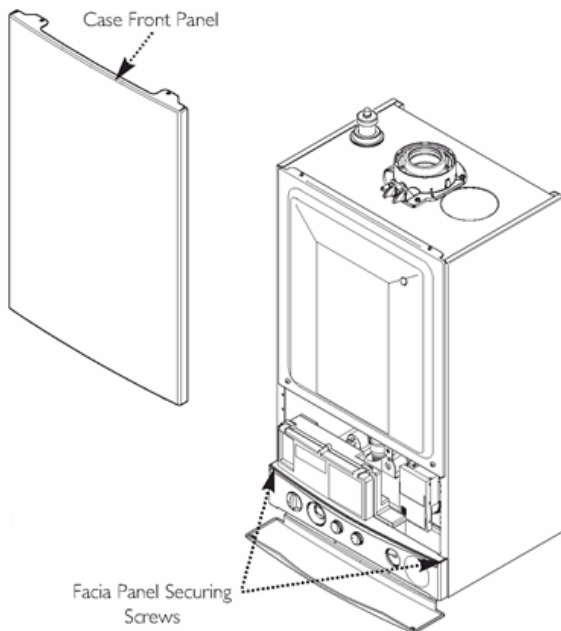

Fig. 46
3. Slacken the screws securing the facia panel. Lift the outercase panel so that its securing tabs are clear of the facia. Remove the panel, allowing the facia to hinge down (Fig. 46).